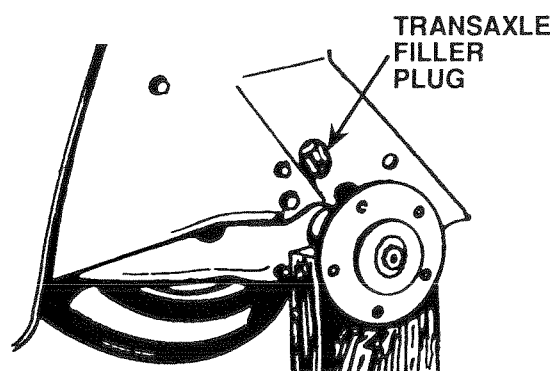

FIGURE 28
- Block up Rear Axle (Fig. 28) securely or use a Tractor Jack.
- Remove Filler Plug (Fig. 28) from Transaxle. Oil level must be even with Plug threads. See your authorized service center if additional oil is required. Replace Filler Plug.